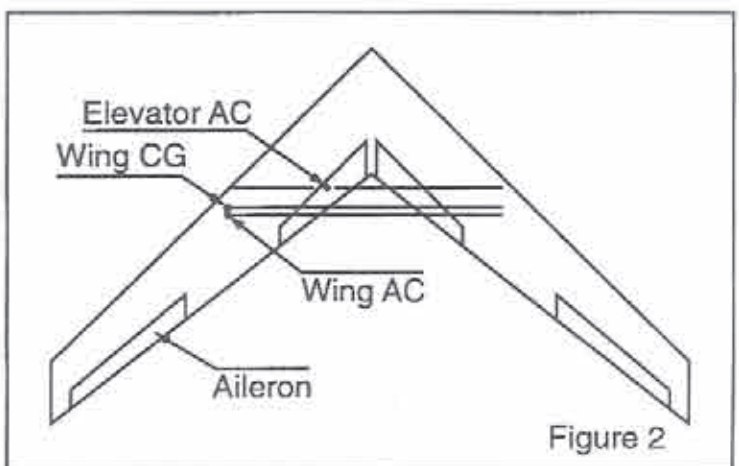

Figure 2
gravity (CG). See Figure 2. While a standard swept wing with elevator outboard can be envisioned to be similar to a conventional tailed sailplane (Figure 3A), this highly swept configuration with inboard elevator is similar to a canard configuration (Figure 3B) in that the control surface for pitch is forward of the CG.
Moving the elevator inboard normally requires a substantial increase in the sweep angle. In the accompanying diagrams, Figures 2 and 3B, the wing sweep angle is around 45 degrees. It should be noted wing sweep angles of over 30 degrees are not usually considered viable for subsonic flight because of severe cross-span flow and excessive effective dihedral at high coefficients of lift.